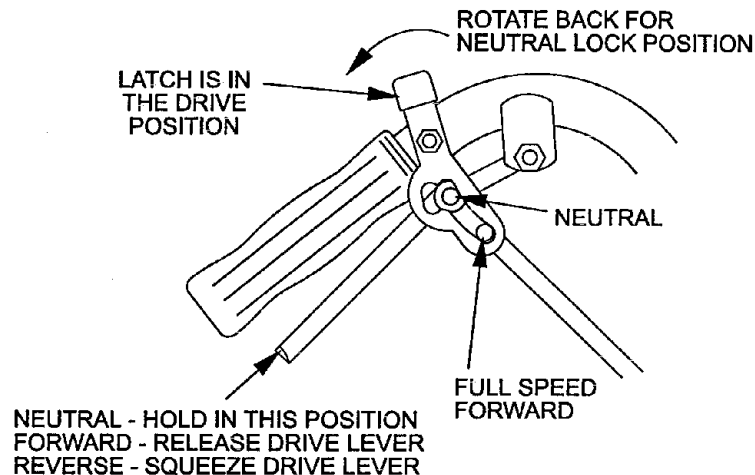

FIG. 4
- 4.1.1 Drive Levers: Located on each side of the upper handle assembly directly below the handle grips (See Figure 4). These levers individually control the speed and direction of each drive wheel. When the speed control lever is moved
out of the neutral position and the neutral lock latches are moved into the drive position, as shown in Figure 4, and the drive levers are released, the drive wheels are engaged in the forward direction.
- 4.1.2 Neutral Lock Latch: Located directly above the drive levers. These latches allow the operator to lock the drive levers in a "neutral" position where neither of the drive wheels are engaged in either a forward or reverse direction. See Figure 4.
- 4.3.3 Drive Lever/Neutral Lock Latch Operation: To lock the drive levers in neutral, squeeze the drive levers back to the neutral position (*Do Not squeeze the drive levers all the way back as this will cause the drive wheels to go into full reverse direction*). Place thumbs on the upper portion of the neutral lock latches and move them to the rear. Release drive levers (See Figure 4).
To back up, squeeze both drive levers into the reverse position (See Figure 4).